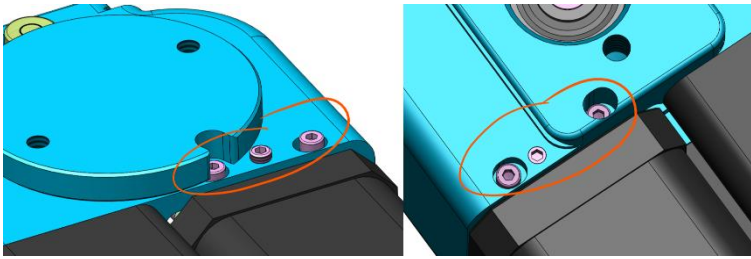

Fig. 3
- Four cheese head screws DIN 912 - M2.5x6 (Fig. 3)
- two grub screws DIN 916 - M4x4 (Fig. 3)